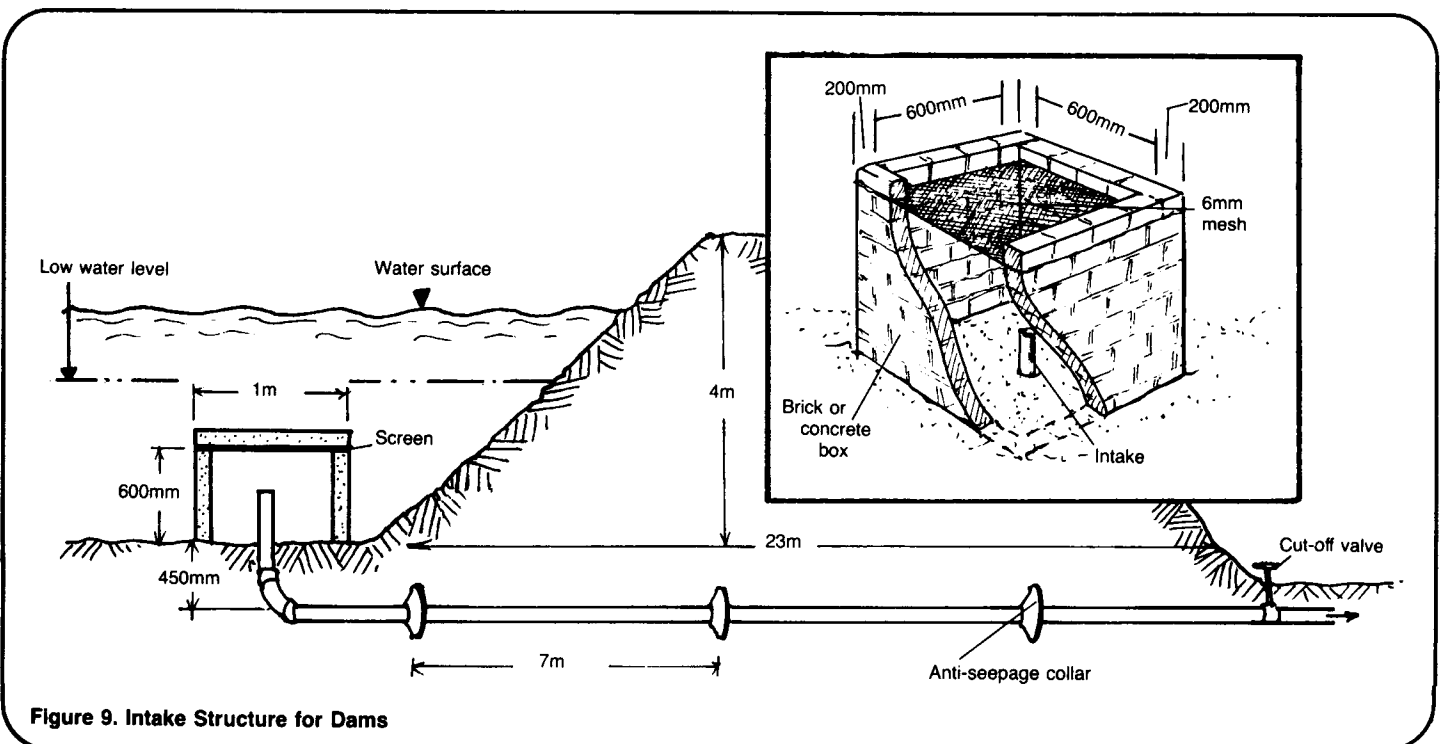

Figure 9. Intake Structure for Dams
1. Stake out the proposed site for the dam and the location of the concrete box within the reservoir. Mark out the proposed walls and determine the approximate location of the intake. It should be near the foot of the upstream wall at a deep spot behind the dam. Use the information on dam design in "Designing Small Dams and Water Impoundments," RWS.1.D.5, to stake out the area. See Figure 9.
6. Build the protective box around the intake. Make the forms for the box 1m long, 1m wide, and 60cm high. The wall should be 10cm thick. Leave a hole for the intake pipe above the pipe elbow in the floor of the forms. See Figure 9.